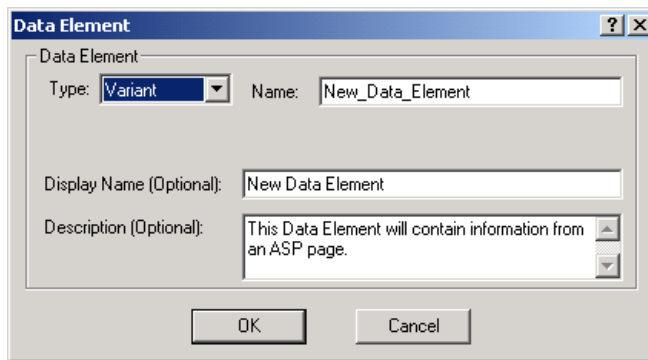

Figure 33-6. You can create new data elements that are associated with ASP data elements.
- ② Right-click under the Data Element column and select **Add Data Element** from the drop-down menu. The Data Element dialog appears (see Figure 33-6, below).